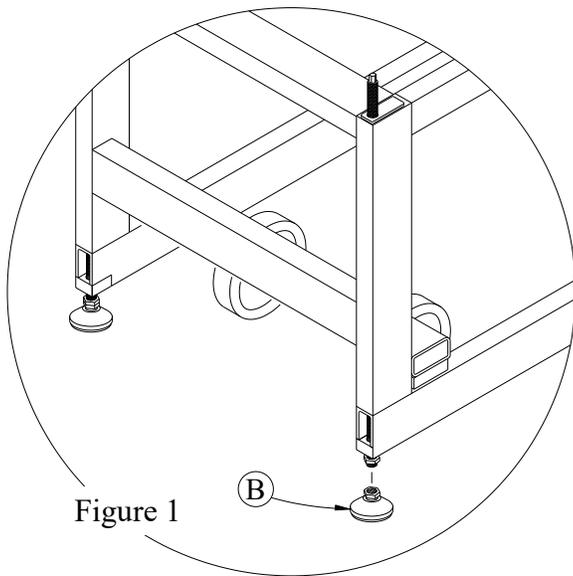
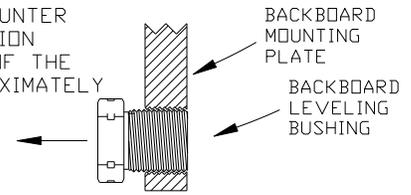
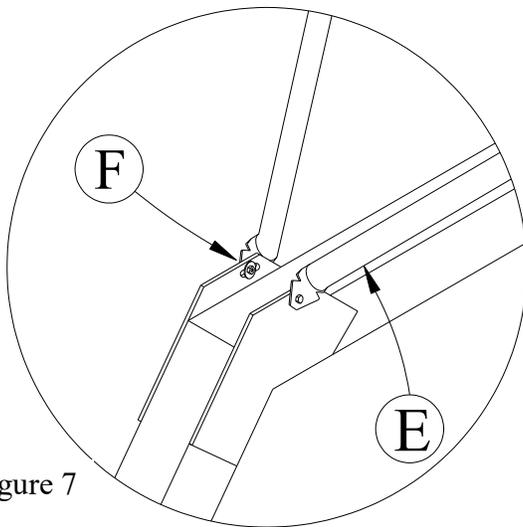

Figure 1
Figure 2
Figure 7
1. Carefully lift the front of the *Portable Base* (A) with a forklift or 4 adults until the back wheels make contact. Remove and discard the shipping pallet. Install the *Foot Pads* (B) and then tighten the jam nuts against the *Foot Pads* (B). See Figure 1.
2. Make sure *Portable Base* (A) is on a level floor. It is best to finish assembly on the floor where the *Portable Base* (A) will actually be used.
3. Make sure the head of the backboard leveling bushing is threaded up against the backboard mounting plate. See Figure 2.
13. Attach *Backboard Braces* (E) to the extension arm with 3/8" x 1" *Hex Bolts* (F), *Flat Washers* (G), *Lock Washers* (H) and *Hex Nuts* (I). Attach *Backboard Braces* (E) to the "*L*" *Brackets* (C) with 3/8" carriage bolts, flat washers and hex nuts included with the *Backboard Hardware* (K). Tighten all hardware components once in position. Components may not fit flush, but should be secure. See Figures 7 and 8.
14. **OR..** If the top of the *Backboard* (J) is leaning back so that it is not perpendicular to the floor in the playing position, lower the entire unit to the storage position leaving the *Foot Pads* (B) in the same position and proceed.
15. Loosen the *Breakaway Goal Mounting Hardware* (M) just enough to allow adjustment of the backboard leveling bushing. See Figure 2.
16. **OR...** If the top of the *Backboard* (J) is leaning back so that it is not perpendicular to the floor in the playing position, lower the entire unit to the storage position leaving the *Foot Pads* (B) in the same position and proceed.
17. Loosen the *Breakaway Goal Mounting Hardware* (M) just enough to allow adjustment of the backboard leveling bushing. See Figure 2.
18. Rotate the two backboard leveling bushings counter clockwise equally to level the *Backboard* (J) top to bottom. One full rotation (360°) will move the top of the *Backboard* (J) approximately 3/8". When the bushings are adjusted, retighten all *Breakaway Goal Hardware* (M) and *Backboard Hardware* (K) making sure the *Backboard* (J) and *Breakaway Goal* (L) are level from left to right. Raise the unit to playing position. Measure the *Breakaway Goal* (L) height.